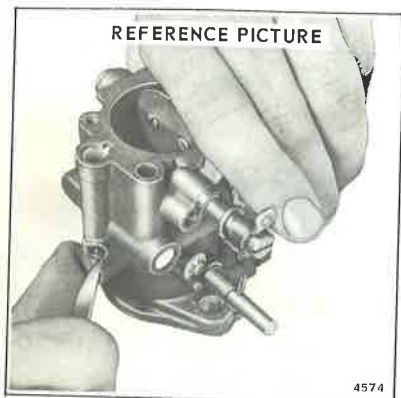

Figure 3-16. Removing Lead Shot
b. If leakage still exists, remove the lead shot with an appropriate sharp tool. See Figure 3-16.